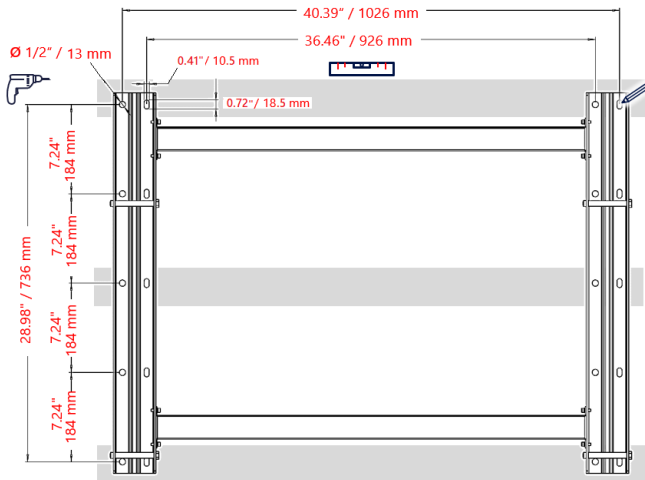

Figure 21: Marking the drilling holes for the mounting bracket
1. Level the mounting bracket of the inverter horizontally against the metal frame and mark at least eight drilling hole locations (see *Figure 21*).